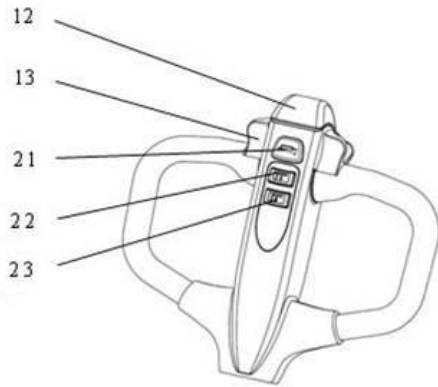
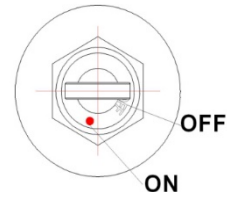
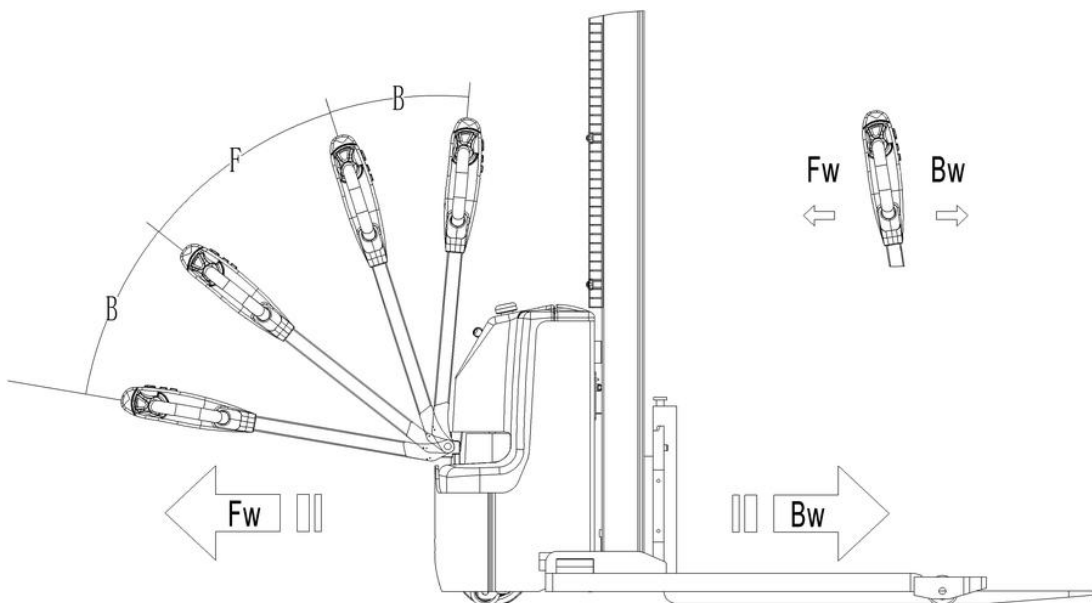

Fig.8: Tiller operating controls
Fig. 9: Key switch
Fig.12: Operating direction
Press the horn button 21(Fig 8) to activate the audible warning signal.
Travel with the lowered forks fully underneath the pallet and press the lifting button (Fig. 8, 22) until you reached the desired lifting height.
Press the lowering button (Fig. 8, 23) carefully.
After starting the truck by turning the inserted key to the "ON"- position (Fig. 9; and eventually by pulling the emergency button carefully), move the tiller to the operating zone ('F', Fig.12).
Turn the accelerator button to the desired direction forward 'Fw.' Or backwards 'Bw.'(Fig. 12).
The braking function can be activated on several ways(Fig 8, Fig 12):
- By moving the accelerator button (Fig 8, 13) back to the initial '0' position or by releasing the button, the regenerative braking is activated. The truck brakes until it stops.
- By moving the accelerator button (Fig 8,13) from one driving direction directly to the opposite direction, the truck brakes regenerative until it starts travelling into the opposite direction.
- The safety (belly) button (Fig 8, 12) prevents the operator from being crushed. If this button is activated, the truck decelerates and/ or starts travelling into the backwards direction ('Bw.') for a short distance and stops. Please consider, that this button also operates, if the truck is not travelling and the tiller is in the operating zone.